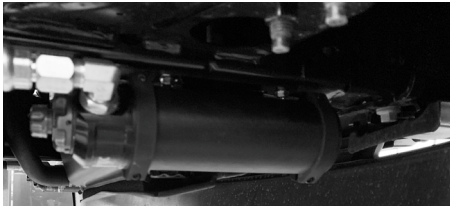

Figure 8: Passenger side bracket shown
20. On external reservoir models, mount the reservoir onto the reservoir bracket on the bottom of the frame rail, forward the front crossmember. (Figure 8)